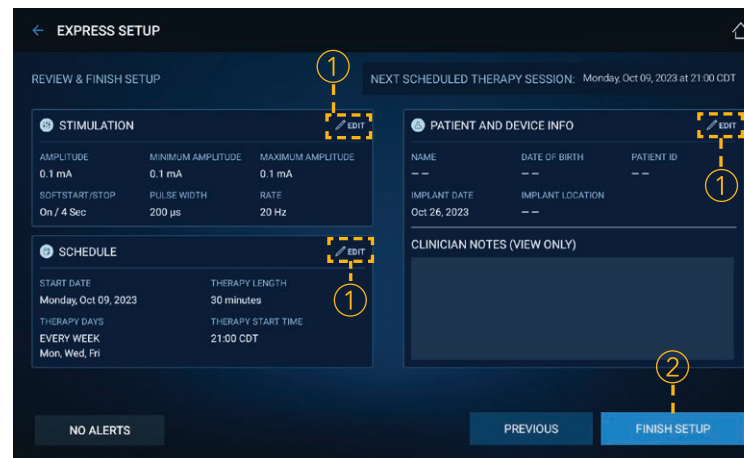

Figure 14. Express Setup: Review and Finish Setup screen
The Review and Finish Setup screen (Figure 14) allows you to review the default settings and amplitude entered.
- If adjustments are needed, tap **EDIT** (Figure 14-①) found in the upper right-hand corner of each panel. You will then be taken out of the Express Setup and placed in the Custom Setup workflow.
- To complete the programming session, tap **FINISH SETUP** Figure 14-②).